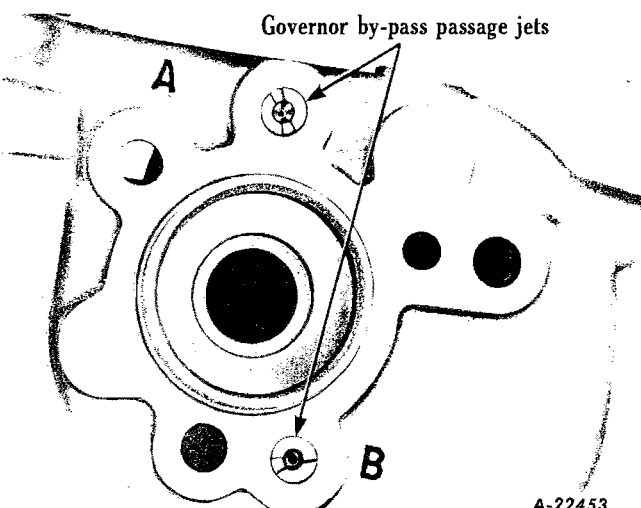

Fig. 62
- Fig. 62 - Remove the governor housing by-pass jets. The assembly of governor by-pass passage jets is shown above. The outside diameters of the "A" jet and "B" jet are not identical, hence it is impossible to assemble them incorrectly.
12. GOVERNOR BY-PASS PASSAGE JETS. Replace jets if worn or damaged. Install the by-pass jets in "A" and "B" channel (Figure 62).